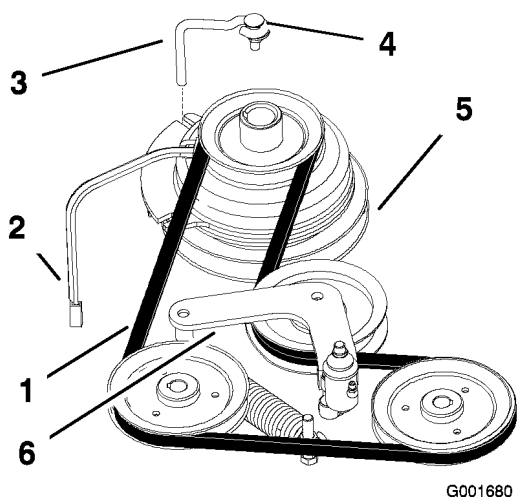

Figure 47
2. Remove the bolt from the clutch stop and unplug the clutch electrical wire (Figure 47).
4. Remove the traction belt from the engine and the hydraulic pump pulleys (Figure 47).
5. Install the new belt around the engine and the hydraulic pump pulleys (Figure 47).
- Release the pressure on the spring loaded idler (Figure 47).